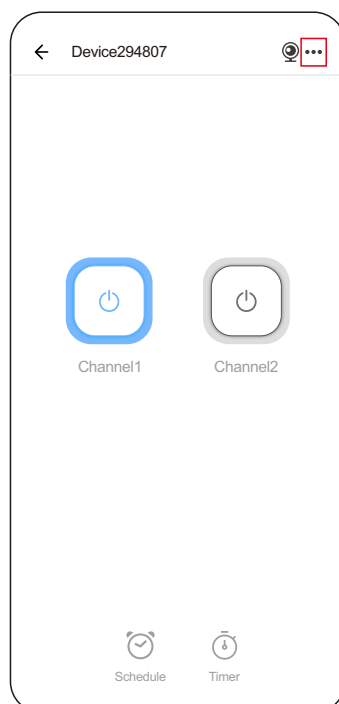

Figure 3
- ⑤ Tap "..." to enter Settings. Modify the device name and Channel 1 and Channel 2 (Figure 3).